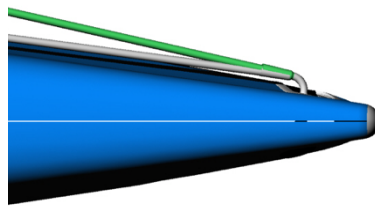

Figure 1
- (1) **The wand may be shortened.**
- (2) The push and pull rods may be shortened.
- (3) The push rod may be bent for better alignment.
- (4) The reversing lever may be bent for better alignment.
- (5) The reversing lever axle bolt diameter may be increased to the equivalent of the largest diameter supplied by the LM.
- (6) Bungy and/or rope may be added to the wand and attached to a **fitting bonded** to the hull no further aft than 500mm from the bow. The system shall not be configured to allow adjustment by the sailor from further aft than the attachment point. The fitting may be replaced by a fitting of similar size and function to the LM-supplied fitting.
- (7) The wand axle elbow may be bent to change the distance of the wand from the side of the boat (fig.1), but not to change the gearing screw angle to the wand in side view (fig.2).